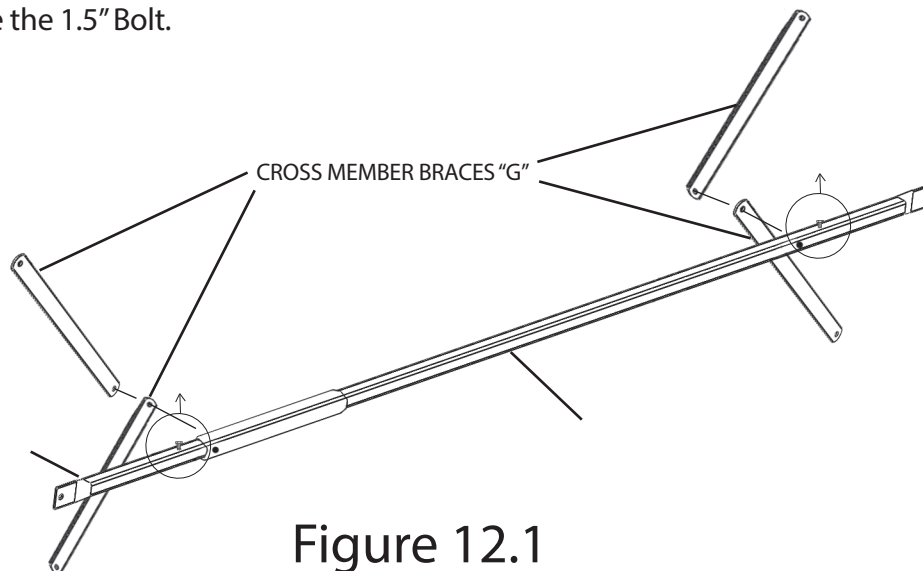

Figure 12.1
STEP 4: Locate (1) SIDE BRACE "E" , (1) SIDE BRACE EXTENSION "EE" and (4) CROSS MEMBER BRACES "G". Slide the SIDE BRACE EXTENSIONS "EE" into the corresponding opening in the SIDE BRACE "E" . Align the CROSS MEMBER BRACES "G" with the corresponding holes , as illustrated in Figure 12.1, and fasten with the hardware (1) 1.5" Bolt (1) 1.25" Bolt and (2) Nuts in the hole locations. This will create the (1) part COMPLETED SIDE BRACE WITH FOUR CROSS MEMBERS , as it will be referred to in the remainder of the assembly manual.
NOTE: Make sure the (2) Set Screw already installed in the SIDE BRACE "E" and the SIDE BRACE EXTENSION "EE" are facing the same direction, as illustrated in Figure 12.1. Where the CROSS MEMBER BRACES "G" share a hardware location with SIDE BRACE EXTENSION "EE" , use the 1.5" Bolt.